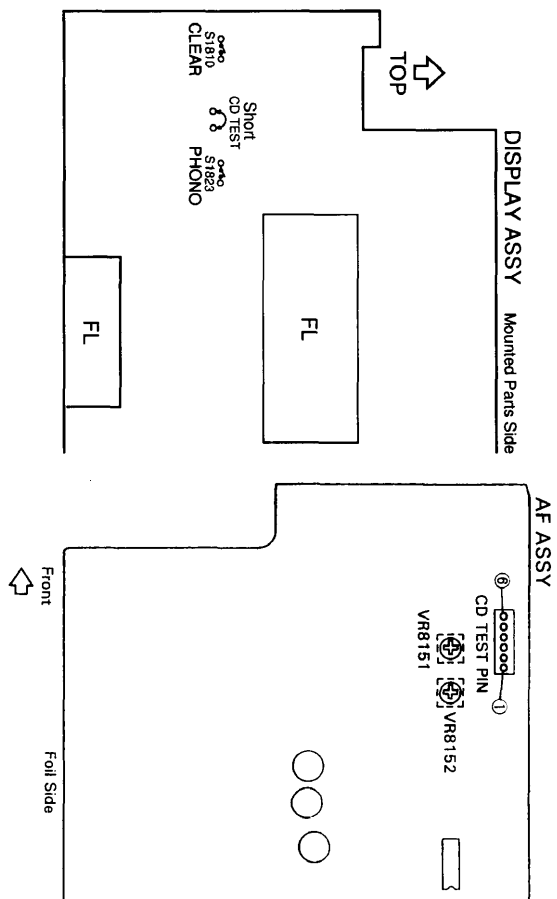

Fig. 5-1 Adjustment Location
2. Short-circuit between both CD TEST points. (See Fig. 5-1)